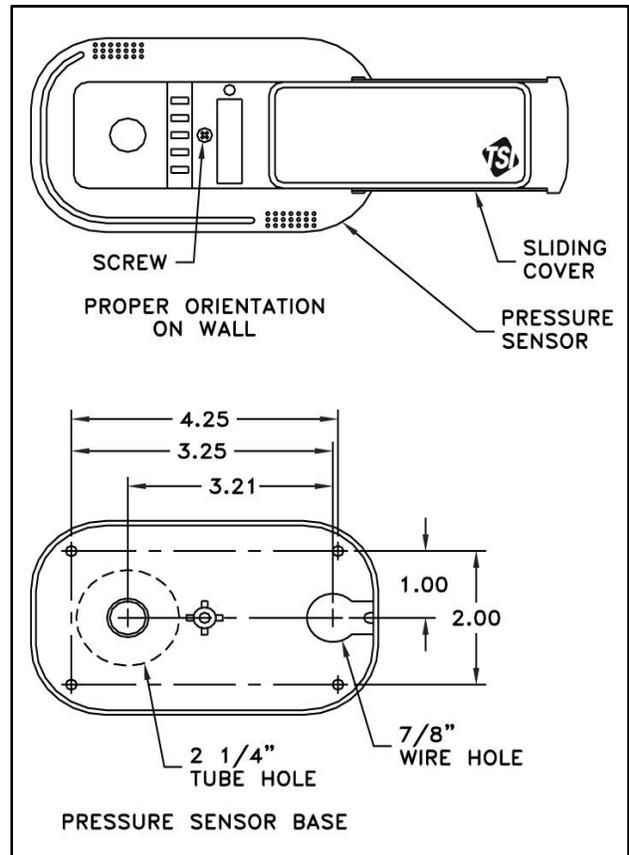

Figure 2: Pressure Sensor Orientation and Mounting Template
- The pressure sensor must be orientated on the wall as shown in Figure 2. Looking at the mounted sensor, sensor hole is on the left (2 1/4") and wire hole is on the right.
- Drill a 7/8" hole on the side of the wall that the pressure sensor will be mounted. This hole is for the six-conductor sensor cable. Refer to Figure 2 for a hole-mounting pattern.
- Slide sensor cover to right and remove screw that holds the sensor base to the pressure sensor (Figure 2). Mod Remove pressure sensor and store in a safe place.